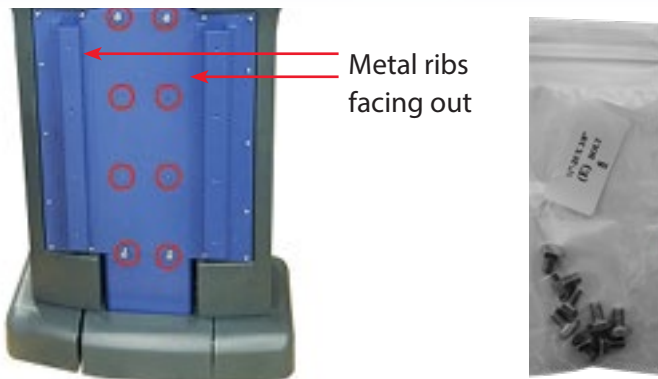

Figure 18. Attach Metal Mounting Plate with Ribs Facing Out and Hardware Bag E
21. Install and tighten (4) #8-11 X 1 1/4" (Bag D & I) across the top of the where the blue or gray plastic meets the gray Roto Mold #5. See Figure 18.
22. Install and tighten (8) #10-32 x 1/2" (Bag F) (no washers) in the pedestal of the blue or gray plastic #5. See Figure 18. This completes the Roto mold and plastic installation.